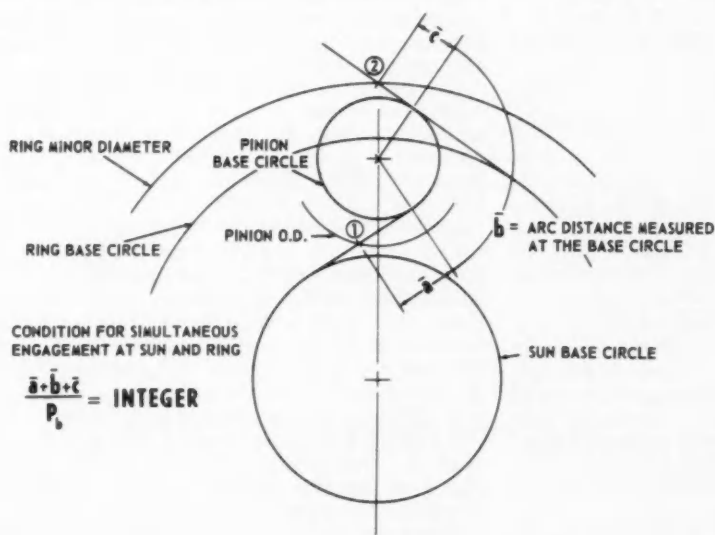

Fig. 8 — Condition for simultaneous engagement at sun and ring gears.
have a pinion engaging a tooth on the sun and another on the ring simultaneously or alternately). This also requires that a rather special relationship be held between the gear elements. Thus, in Fig. 8, the base circles and lines of action of the sun, pinion, and ring are shown (for the case of the sun driving). Contact between the sun and pinion starts at point (1). For simultaneous engagement, the distance $\bar{a} + \bar{b} + \bar{c}$ must be an integral multiple of the base pitch. This would require a special selection of pinion OD and ring ID once the base circle diameters and base pitch have been chosen.